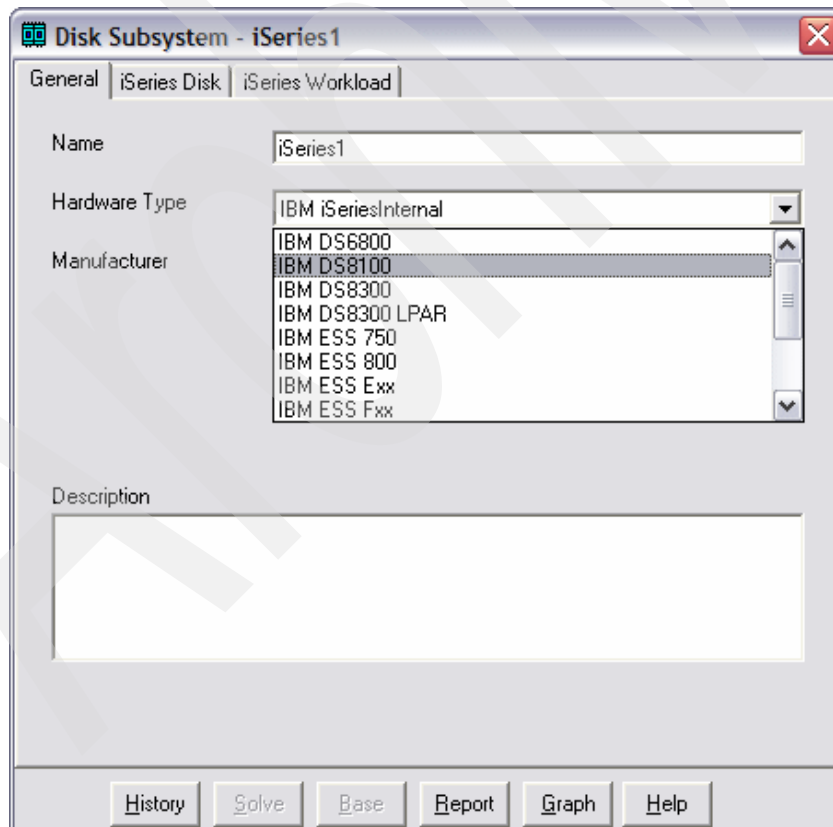

Figure 4-29 Inserting a planned type of DS
- a. On the General tab in the Disk Subsystem - iSeries 1 window, choose the type of planned DS for Hardware Type (Figure 4-29).